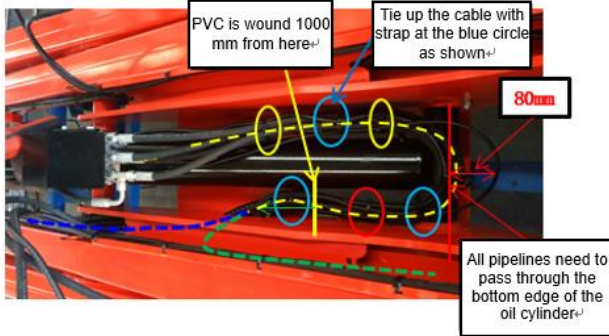

Fig. 4.75 Installation of first layer pipeline
- a) Smooth the oil pipe, harness and cable (each pipeline shall not be twisted and stressed), and bend the bottom end of the lower oil cylinder as shown by the yellow dotted line in Figure 4.75. The bending vertex shall pass through the outer edge of the bottom end of the oil cylinder (as shown by the red line in Figure 4.75), and then fix it on a layer of fork round steel of the inner frame (as shown by the red ring in Figure 4.75);